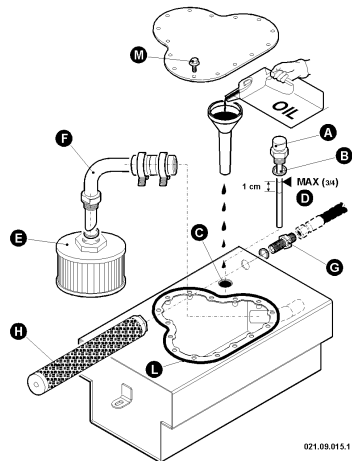

fig. 51 – Substitution of oil and filters
- Empty the oil tank first (*see fig. 51*);
To replace the filters follow the instructions below, with reference to the *fig. 51*.